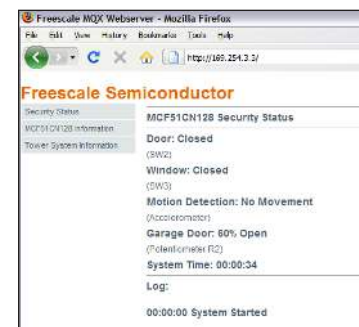

Figure 2: Web Interface
- You should see the Web server welcome page in the browser window, as seen in *Figure 2*.